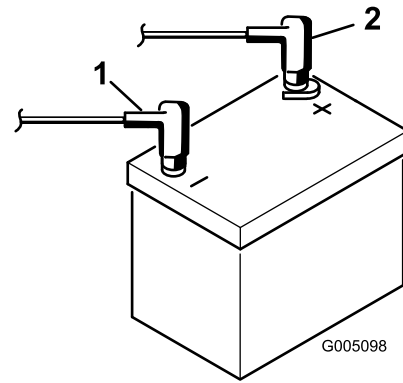

Figure 7
7. First, install the positive cable (red) to the positive (+) terminal and then the negative cable (black) to the negative (-) terminal of the battery and secure them with the bolts and nuts (Figure 7). Slide the rubber boot over the positive terminal to prevent a possible short from occurring.